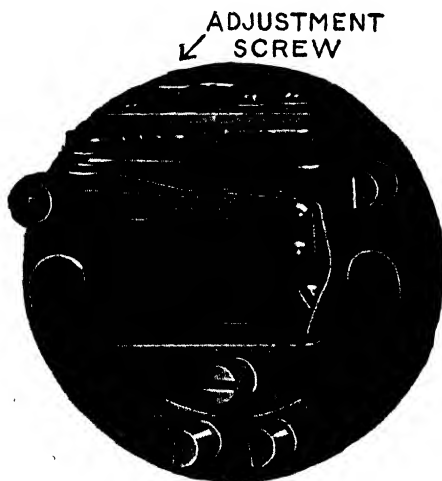
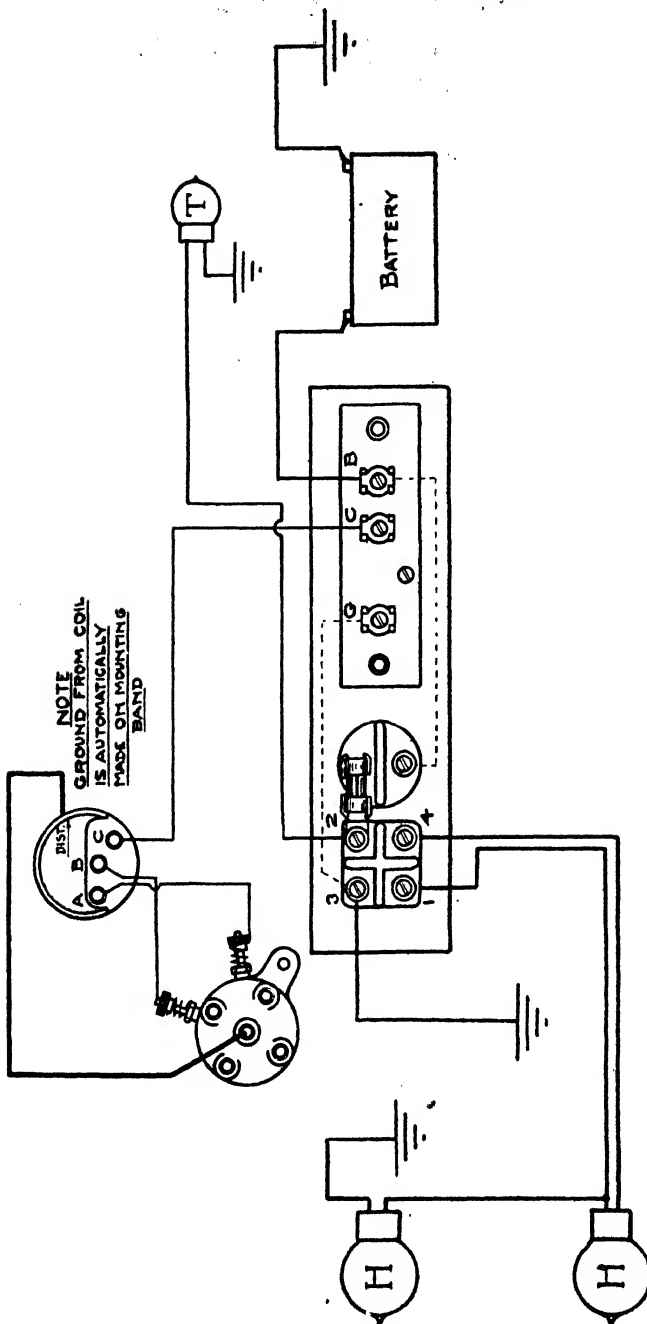

Fig. 123. Connecticut Automatic Switch
Fig. 124. Wiring Diagram for Connecticut Ignition System.
*Automatic Switch.* The purpose of the automatic switch, Fig. 123, is to open the circuit in case the switch button has been left on with the car stopped. The current passing with the contacts closed, when the engine is idle, is much greater than when it is constantly being interrupted by the rapid-fire action of the cam, but, unlike a circuit-breaker, the device is not designed to act instantly upon the passing of an overload current as this would prevent cranking the motor. The device consists of a thermostatic arm regulated by the adjustment screw at the top of the figure, an electromagnetic vibrator the armature of which carries a hammer, and the necessary connections. Current enters at either the right- or left-hand screw at the bottom, according to whether the switch is closed at the end of the sectors at the right or left of the figure (*M* or *B* on the switch cover plate), and flows through the heater tape on the arm of the thermostat to the screw at the upper right in the figure. This heater tape is a resistance that becomes warm upon the passage of a certain amount of current for a short time and, with an increase in temperature, causes the arm of the thermostat to bend until it makes contact with the upper thermostatic arm. This puts the windings of the magnet in circuit through the post just below the magnet coils and sets the vibrator in motion, causing the hammer on the armature to strike the switch button and open it. Fig. 124 is a typical wiring diagram in connection with the lighting system, the automatic switch being combined with the lighting switch.